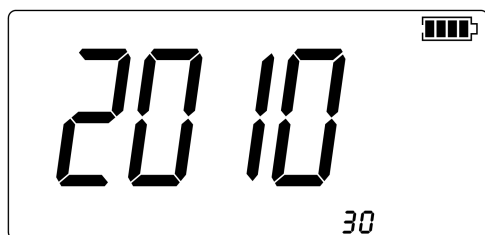

Figure 2.1-3
3. Then the product model (2010) and automatic shutdown time (30 min) will be displayed for 2 seconds as shown in Figure 2.1-3.